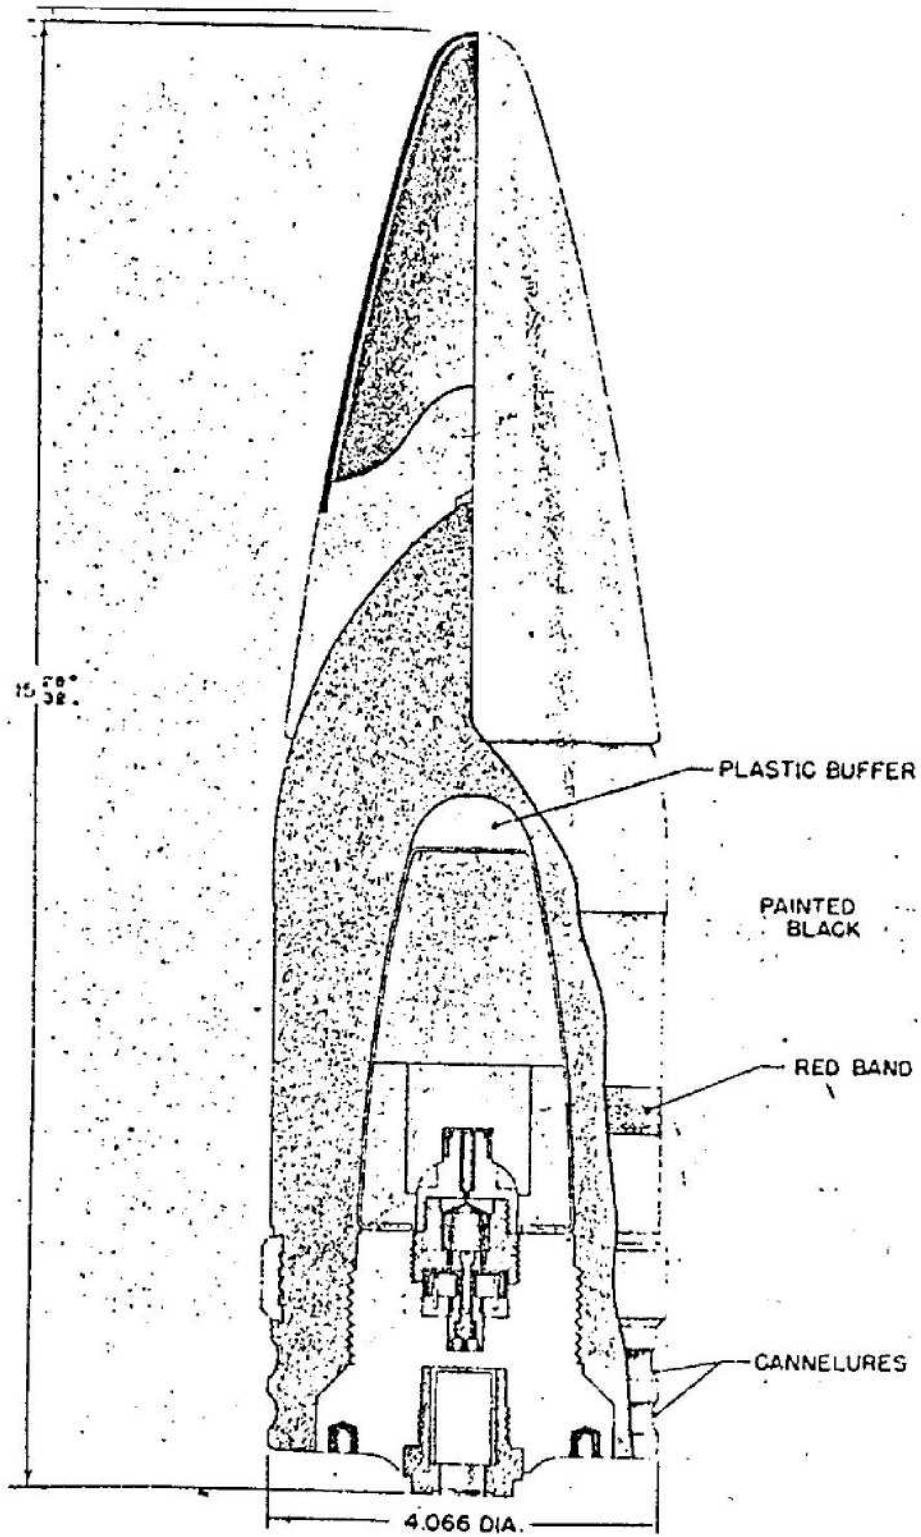

Figure 466—A. P. C. Projectile with Tracer, 105-mm, 10-cm Pzgr. Rot
**GERMAN NOMENCLATURE:** 10-cm Pzgr. rot (Panzergranate rot). (See fig. 466.)